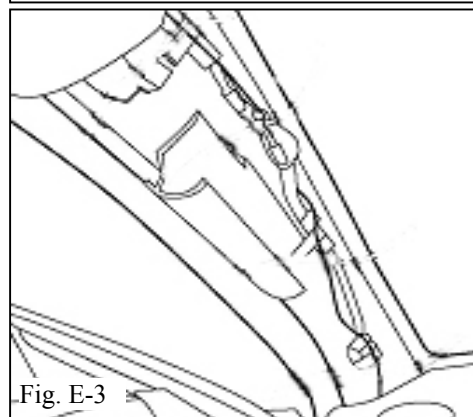

Fig. E-3
6. Route mirror wire harness down A-pillar as shown. (Fig. E-3)